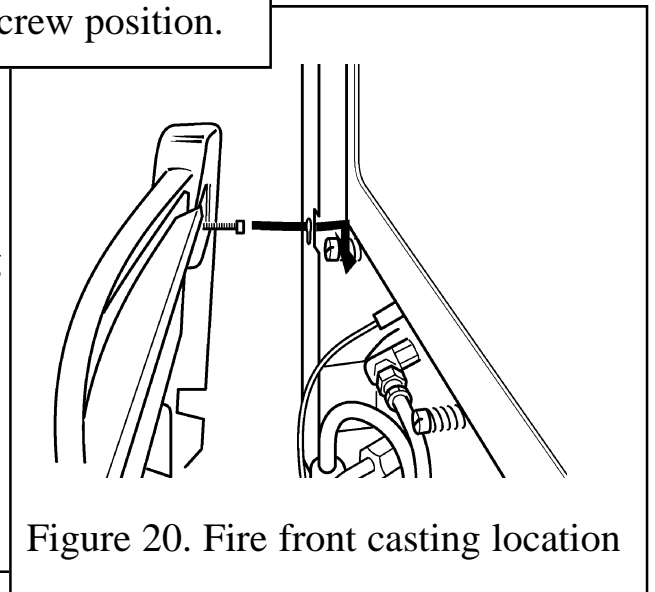

Figure 20. Fire front casting location
- Lower the casting so that it rests on the hearth (See figure 20).